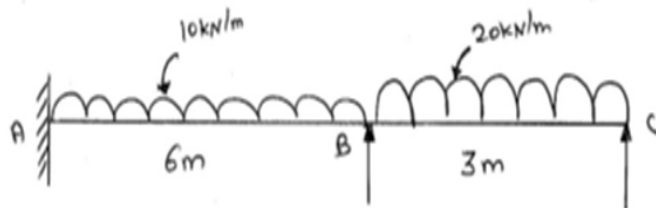

Figure 4
- (b) Find out the end moment by using theorem of three moment for Figure 4. [7M]